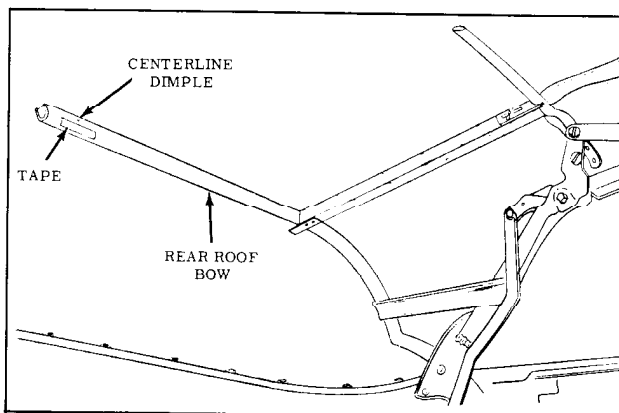

Fig. 17-142 Centerline of Rear Roof Bow
24. Along forward surface of rear roof bow install a 1" piece of tape at centerline dimple of rear roof bow. Using a pencil, mark centerline of rear bow on tape. (Fig. 17-142)
NOTE: The deck seam mark will vary slightly ($\pm 1/4''$) depending upon position of rear roof bow. Also check centerline mark on inner lining of top material. Mark should correspond to centerline mark on rear roof bow. (Fig. 17-142)